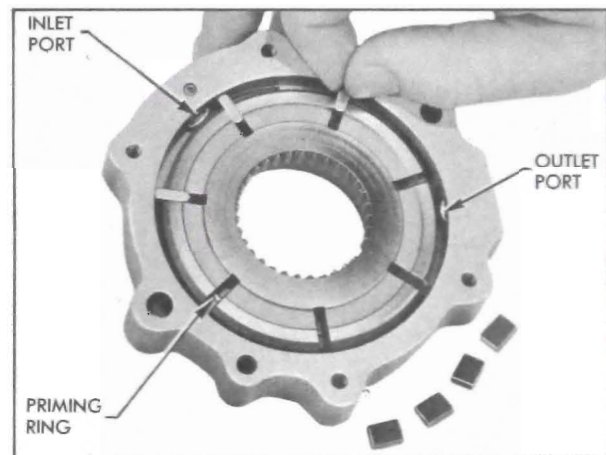

Figure 6-37—Assembling Differential Pump
3. Place vanes in pump rotor in the general area between the pump inlet and outlet ports. As each vane is inserted, turn rotor slightly so that another empty slot is in position between the two ports. *Be sure that inner corner of vanes engage the priming ring, forcing it inward.* See figure 6-37.